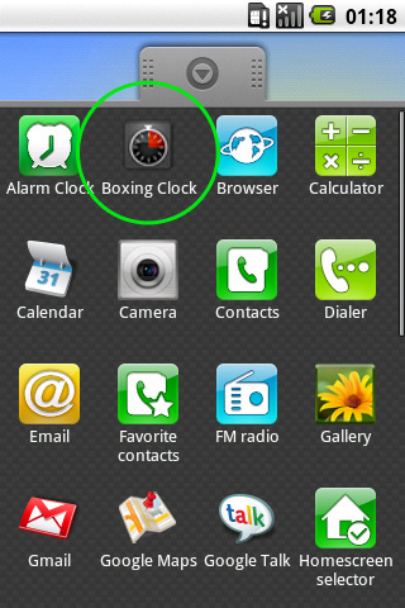

Figure 6-29. Boxing Clock icon in the Android app menu
3. Optionally, copy the program icon (*icon.png*) of three different sizes into *res/drawable-ldpi/*, *res/drawable-mdpi/*, and *res/drawable-hdpi/*, overwriting the files that are already in there. This will give you an attractive icon, as shown in Figure 6-29.